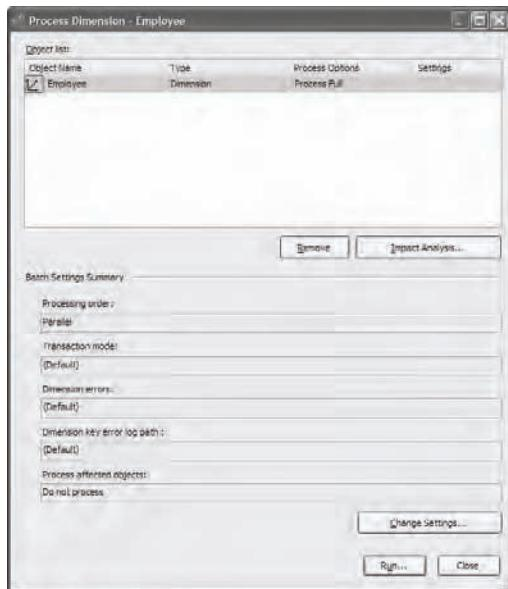

Figure 3.26 Use the Process Object(s) dialog to tell the sever how to process the object.
4. Once the deployment process is finished, the Process Object(s) dialog is shown (Figure 3.26).